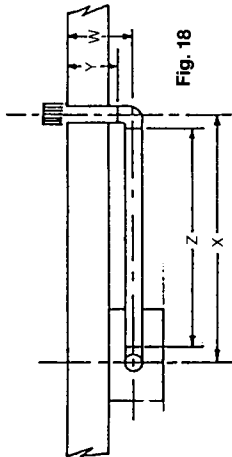

Fig. 18
- 5.5.24** Measure carefully the distance between the centre of the flue bend on then boiler to the centre of the hole through the wall (dimension X fig 18).
- 5.5.31** Ensure that the flue pipe runs parallel to the wall then carefully measure the distance from the outside face of the wall to the centre of the extra bend (dimension W fig 18).
- 5.5.23** Ensure when siting the flue hole position that the combined distances (Y&Z on fig 18) between the flue elbow on the boiler to the extra bend and from the face of the outside wall to the extra bend do not total more than 2.5 metres.